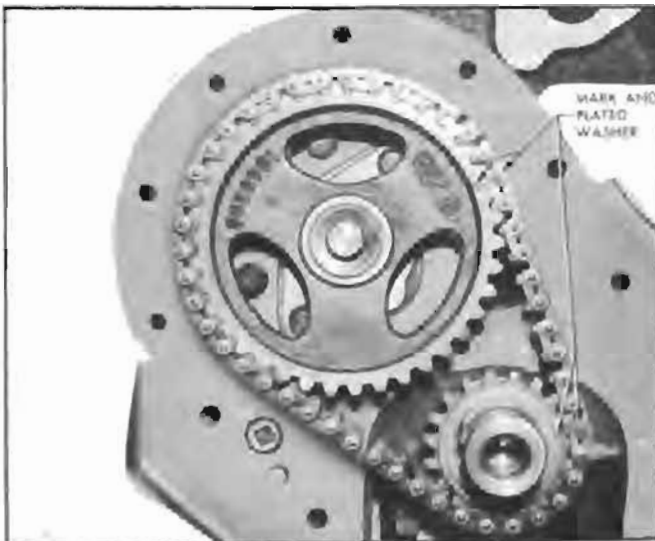

Figure 2-21—Timing Chain and Sprocket Marks
marked with copper plated washers. See figure 2-21.
8. Install new timing chain with camshaft sprocket, being sure that timing marks on sprockets and chain are in line as shown in figure 2-21.